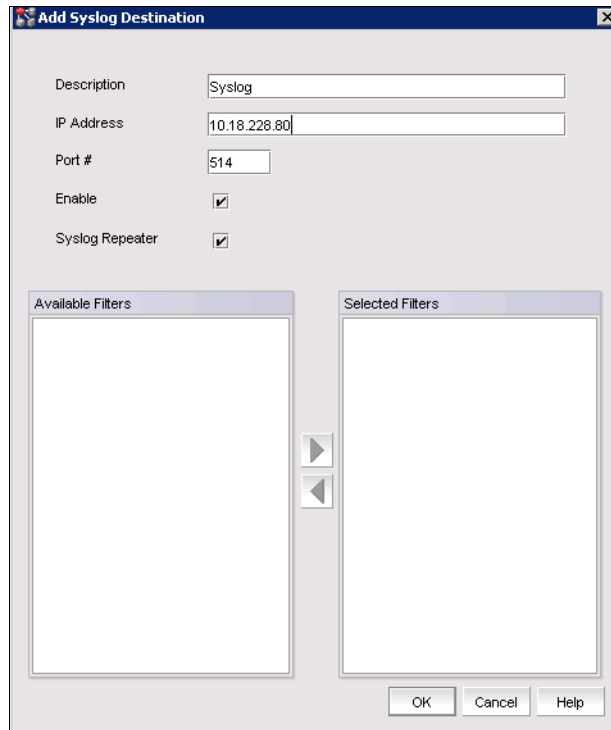

Figure 10-3 Add Syslog Destination window
3. Click **Add**. The Add Syslog Destination window is displayed as shown in Figure 10-3 on page 258.
Figure 10-3 shows the Add Syslog Destination window.